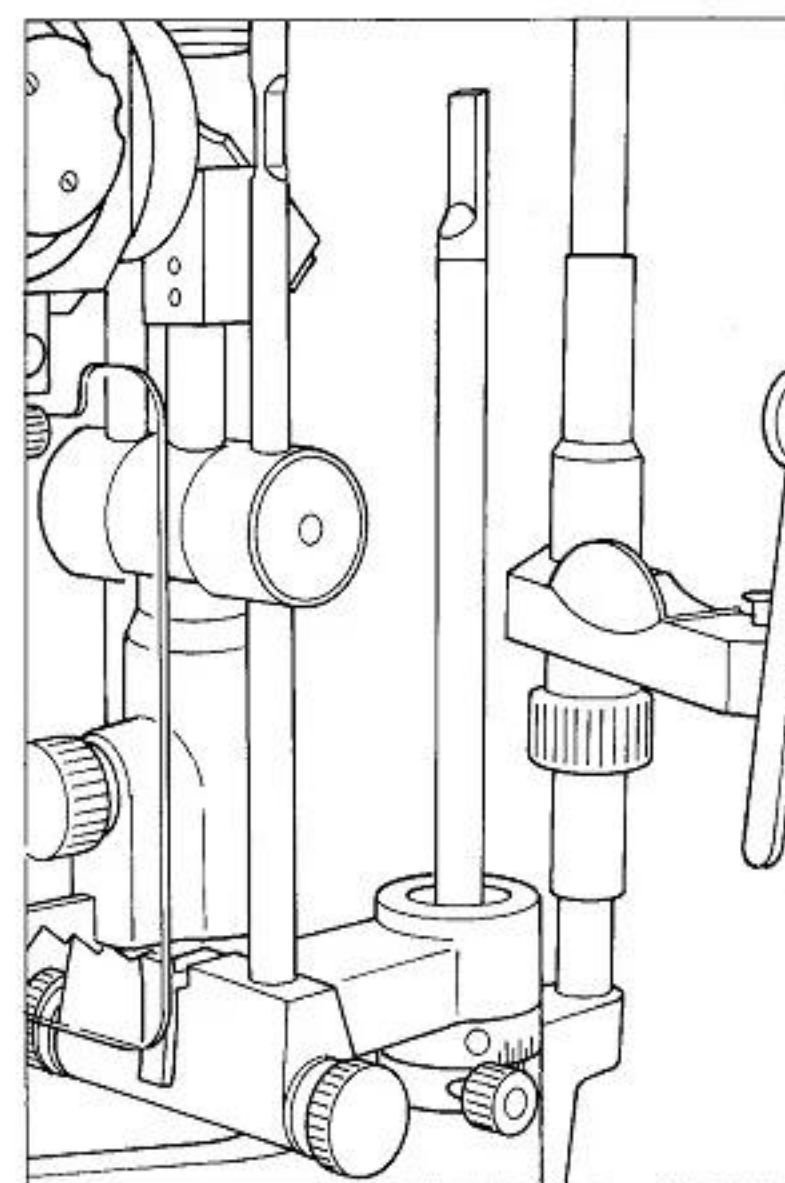

Fig. 17: Focusing rod
- 1) Insert the focusing rod in the pivot hole (Fig. 17).